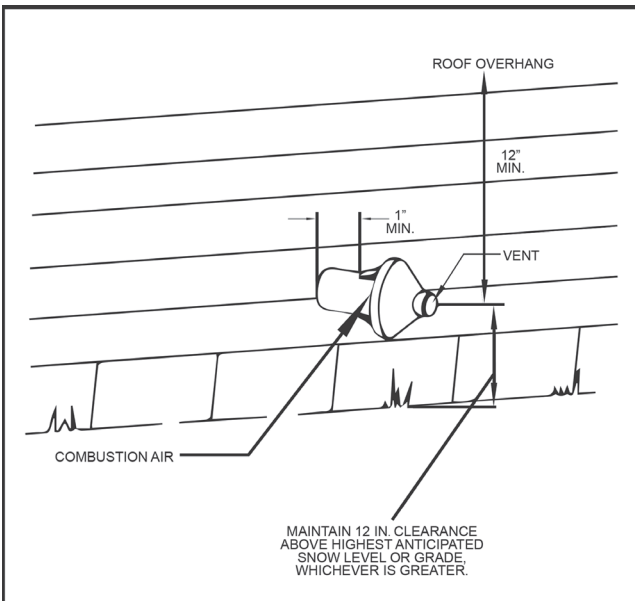

Figure 5 - Sidewall Termination
**NOTE:** Ensure termination location clearance dimensions are as shown in Fig. 5.